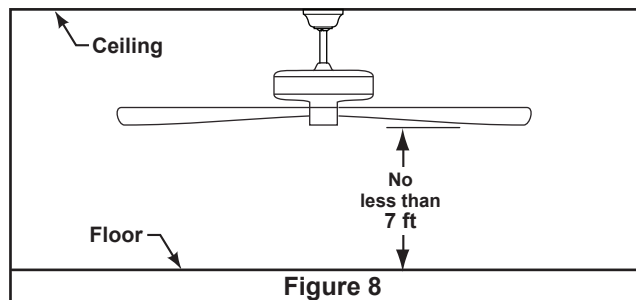

Figure 8
- ☐ 7. Install the remaining two screws removed in step 5 to secure the ceiling canopy to the ceiling bracket. (Figure 8)
The fan must be hung with at least 7' of clearance from floor to blades. (Figure 8)